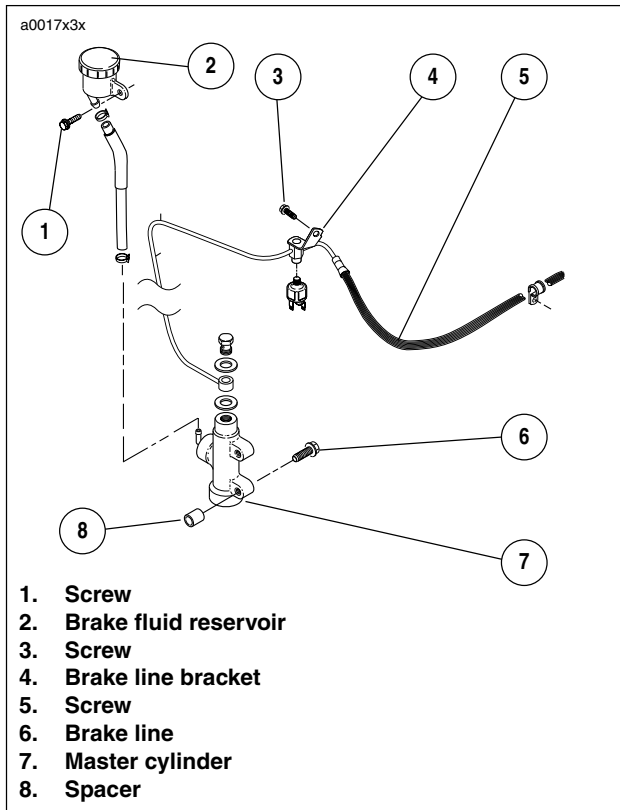

Figure 3-32. Rear Master Cylinder and Brake Line Assembly
21. See Figure 3-32. Install master cylinder onto footpeg bracket. See 2.21 FOOTPEGS AND FOOTPEG SUPPORT BRACKETS.